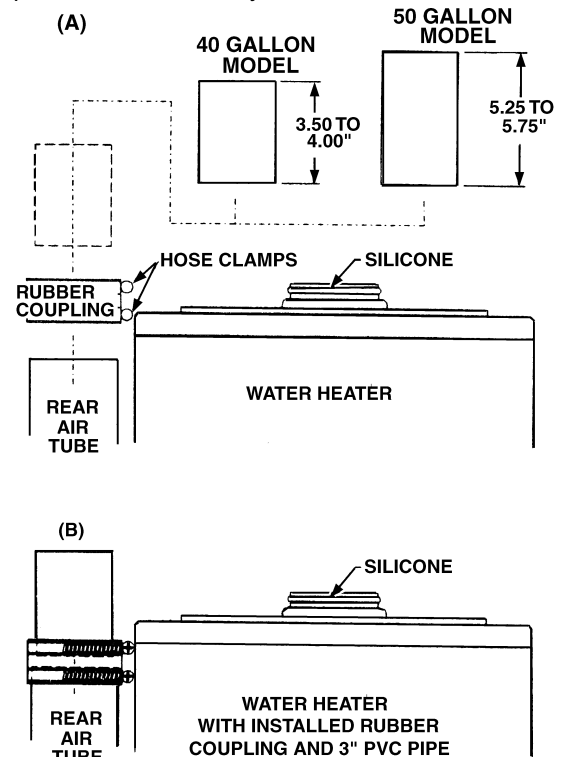

FIGURE 10
7. Cut a 3 inch PVC pipe approximately 4 inches for the 40 gallon and approximately 5.75 inches for the 50 gallon. Take the cut 3 inch PVC pipe and place into rubber coupling and tighten hose clamps. (Fig.10)
9. Once the alignment is correct for the tee to the air tube, apply a 1/8 to 1/4 inch bead of high temperature silicone on the outside circumference of flue pipe approximately 1/4 inch below the end of pipe (see Fig. 10). Next, put glue on the cut 3 inch PVC pipe. Quickly locate the blower assembly, the 3 inch PVC pipe, and the 3 inch PVC tee on to the flue pipe and rear air tube before glue cures (See Fig. 12).
10. Secure the blower assembly with the (2) screws removed earlier. Brackets for securing the blower assembly are slotted to allow for adjustment. Brackets should be adjusted so that they touch the top cover.